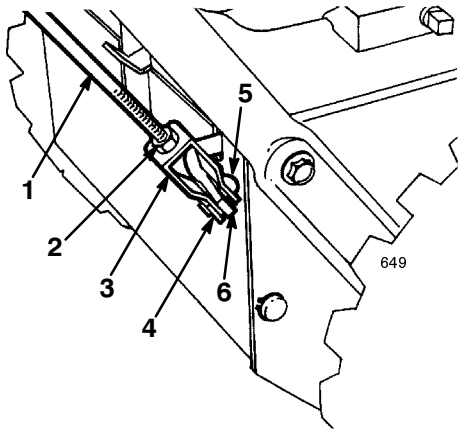

Figure 8
1. Loosen the jam nut above the clevis on the upper control rod (Fig. 8).
- Align the holes in the clevis and the lower control rod and insert the clevis pin (Fig. 8).
- Thread the clevis up or down to increase or decrease the distance between the handgrip and the auger/impeller drive control lever (Fig. 8).
- When the adjustment is correct, install the clevis pin and secure it in place with the cotter pin (Fig. 8).
- Tighten the jam nut to secure the clevis (Fig. 8).